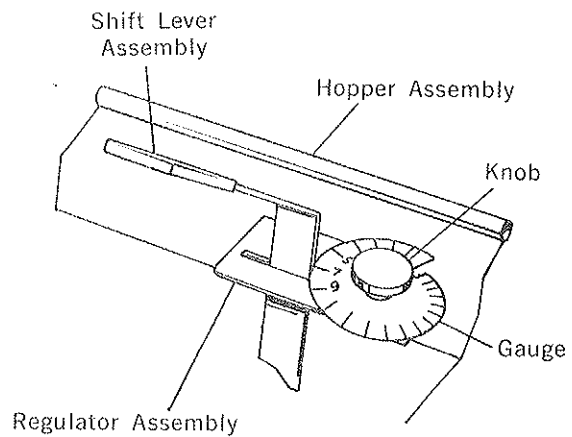

Figure 12
10. Fig. 12 - Loosen the Knob on the Regulator Assembly and set the Gauge so that No. 7 is in line with the Shift Lever (No. 7 is an arbitrary dial setting for testing the spreading of the material). Now set the Baffle in a low position for free flowing material or high position for organic fertilizer, peat moss, etc. Fill the Hopper about $\frac{1}{2}$ full of material. Using a clean area on a side walk or drive-way, make a pass a couple of feet long with the Shift Lever open. According to your choice of coverage, it may be necessary to re-adjust the Gauge setting and make several passes to arrive at a satisfactory setting. Sweep up the material from the test passes and put back into the Hopper.